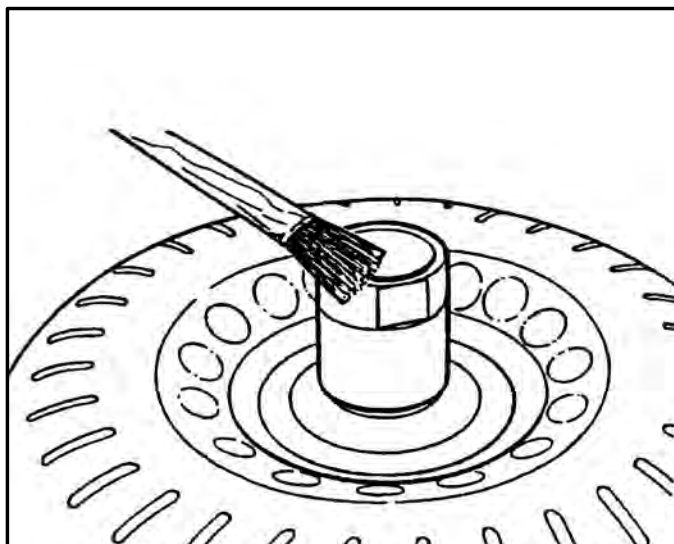

Figure 204
10. Lubricate the converter hub with Mercon® fluid XT-2-QDX, or equivalent, as shown in Figure 204.